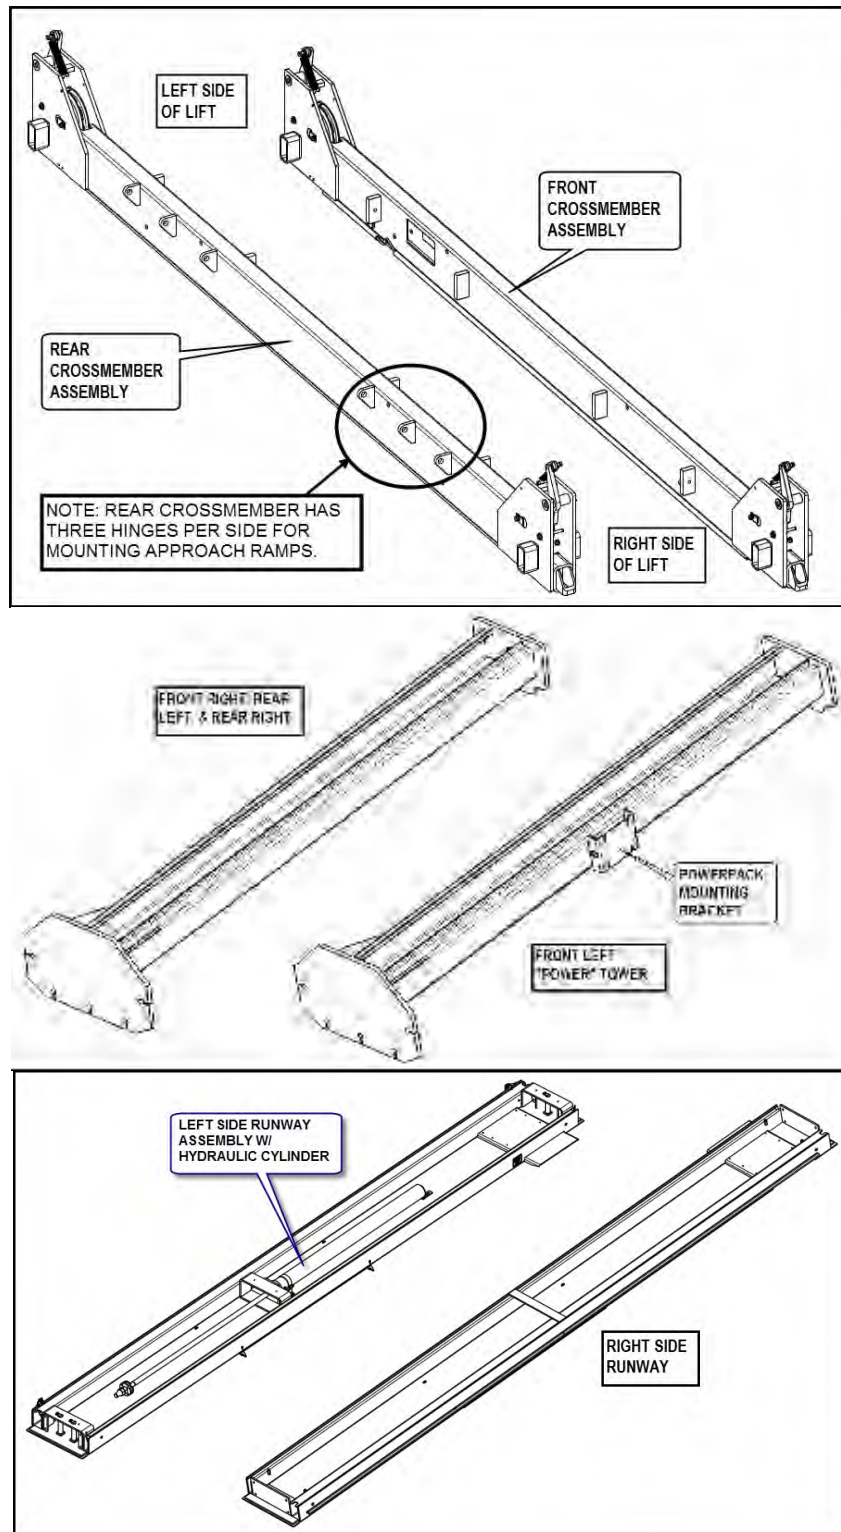

Figure 4. Component Identification
1. Move the front crossmember and rear crossmembers into position. Do not assemble yet. Refer to **Figure 4** to identify the front and rear crossmembers.
2. Determine which tower is the power post (see **Figure 4**) and position it in the front left corner. Position the remaining three towers at the other corners of the lift.